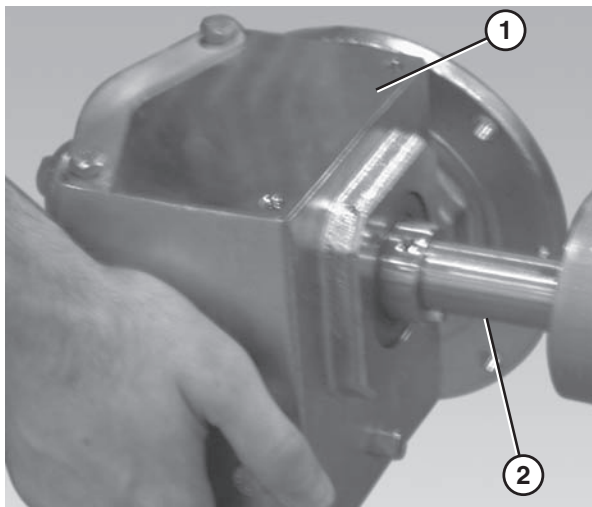

Figure 34
3. Slide the gearmotor assembly (**Figure 34, item 1**) onto the drive spindle (**Figure 34, item 2**).